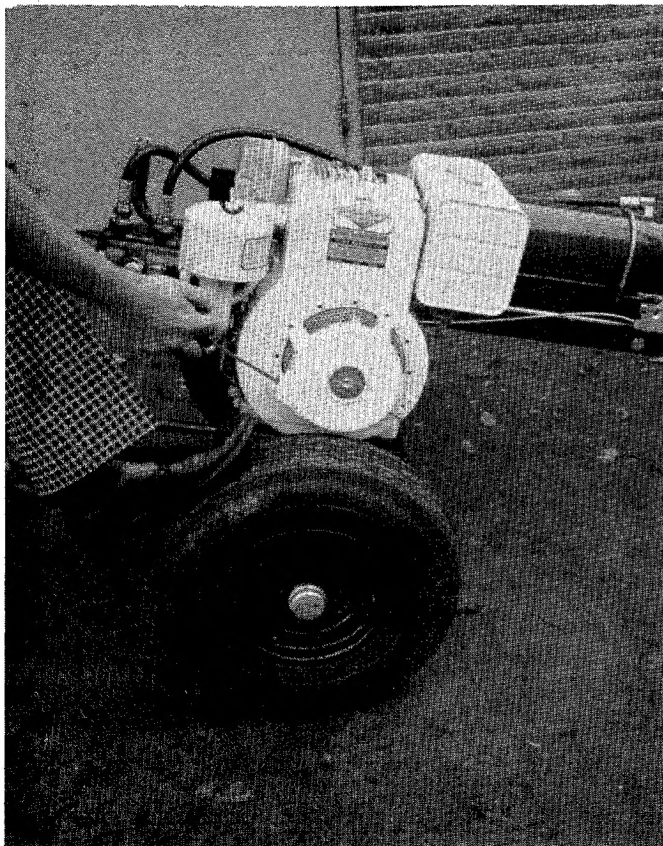

FIGURE 20
4. Rewind starter — place one foot on wheel and with a quick full arm stroke, keep firm grip on handle and return rope slowly. See figure 20.